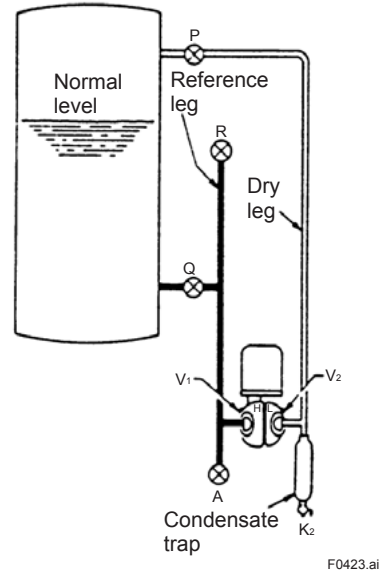

Figure 4.23 Direct Connected
- (1) Direct Connection (Refer to Figure 4.23)